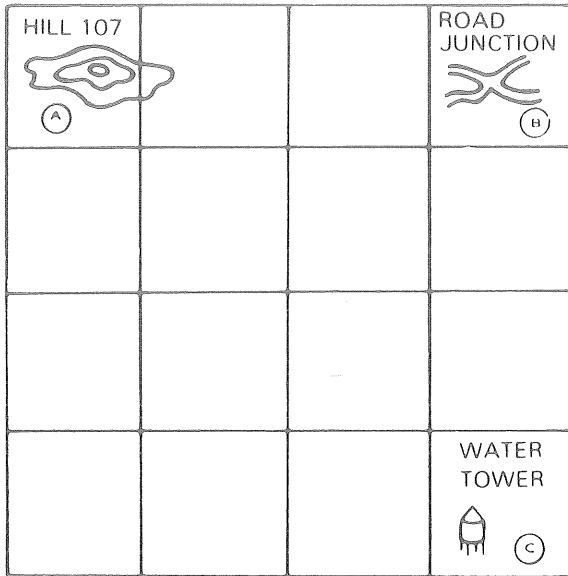

Figure 1a.
Step 2: Locate two known positions on the ground and mark them on your map (fig 1a).